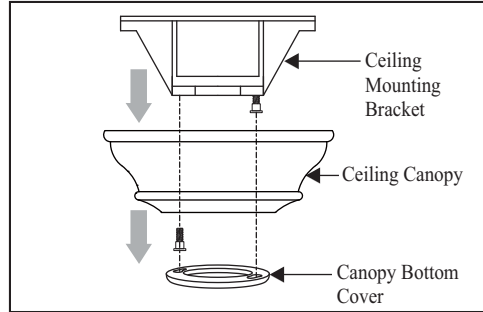

Figure 5
1. Remove the decorative canopy bottom cover from the canopy by turning the cover counter clockwise. (Figure 5)
2. Remove the mounting bracket from the canopy by removing the non-slotted screw from the bottom of the mounting bracket and loosening the slotted one a half turn from the screw head. Next, turn the canopy counter clockwise to removing the mounting bracket from the canopy. (Figure 5)